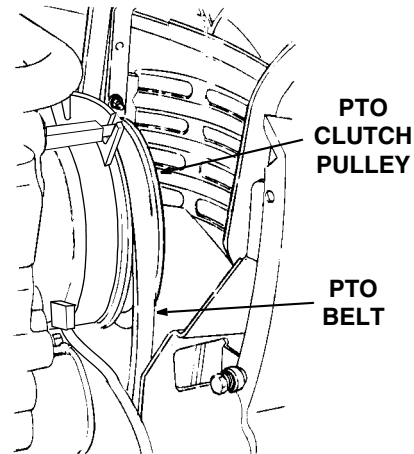

Figure 36
13. Pass the PTO belt upward inside the front of the tractor frame and install the forward end of the belt onto the PTO clutch pulley on the front of the engine. Ensure that the narrow side of the PTO belt engages the groove of the clutch pulley (See Figure 36).